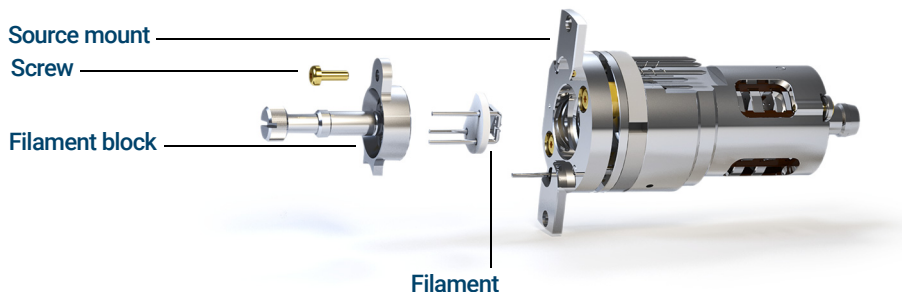

Figure 37. Replacing the filament
- 4 Remove the screw securing the filament block to the source mount. (See **Figure 37.**)
- 7 Insert the three pins on the filament through the rear of the filament block. (See **Figure 37**, "Replacing the filament," on page 124.)